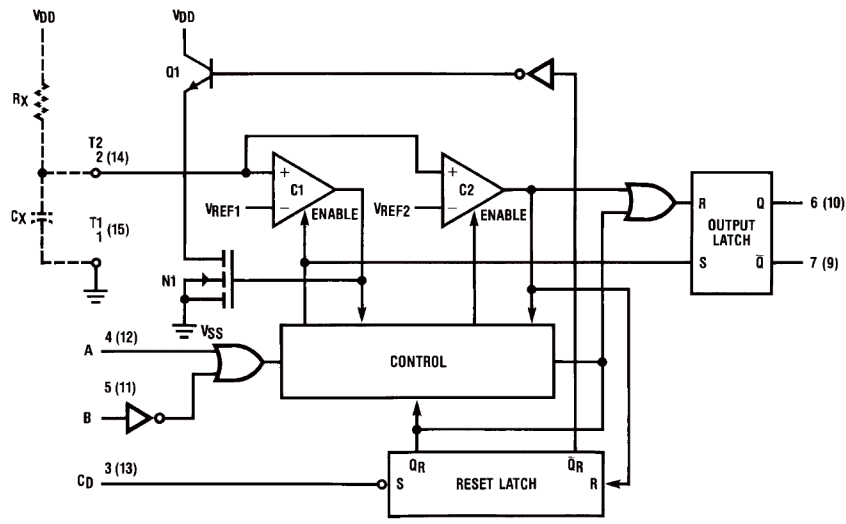

FIGURE 1
The block diagram of the CD4538B is shown in Figure 1, with circuit operation following.
As shown in Figures 1 and 2, before an input trigger occurs, the monostable is in the quiescent state with the Q output low, and the timing capacitor C_X completely charged to V_{DD} . When the trigger input A goes from V_{SS} to V_{DD} (while inputs B and C_D are held to V_{DD}) a valid trigger is recognized, which turns on comparator C1 and N-Channel transistor N1^①. At the same time the output latch is set. With transistor N1 on, the capacitor C_X rapidly discharges toward V_{SS} until V_{REF1} is reached. At this point the output of comparator C1 changes state and transistor N1 turns off. Comparator C1 then turns off while at the same time comparator C2 turns on. With transistor N1 off, the capacitor C_X begins to charge through the timing resistor, R_X , toward V_{DD} . When the voltage across C_X equals V_{REF2} , comparator C2 changes state causing the output latch to reset (Q goes low) while at the same time disabling comparator C2. This ends the timing cycle with the monostable in the quiescent state, waiting for the next trigger.